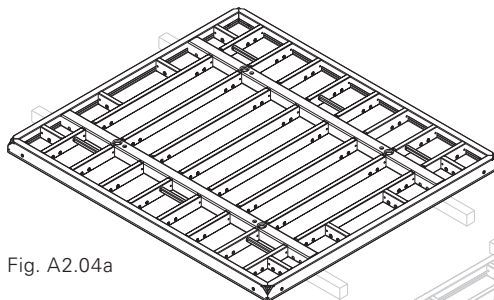

Fig. A2.04a
2. Install decking and guardrails. (Fig. A2.04a + A2.04b)